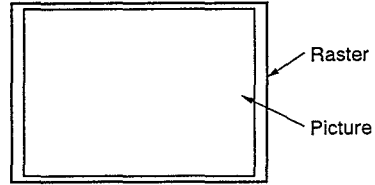

Fig. 1
④ VR903 (V BIAS)
⑤ VR908 (H. PHASE)
- i) Input the COLOR BAR and set the SCAN switch on the FRONT PANEL to UNDER SCAN position. Then, adjust VR908 so that the picture can be positioned at the center of the raster.(See Fig.1)